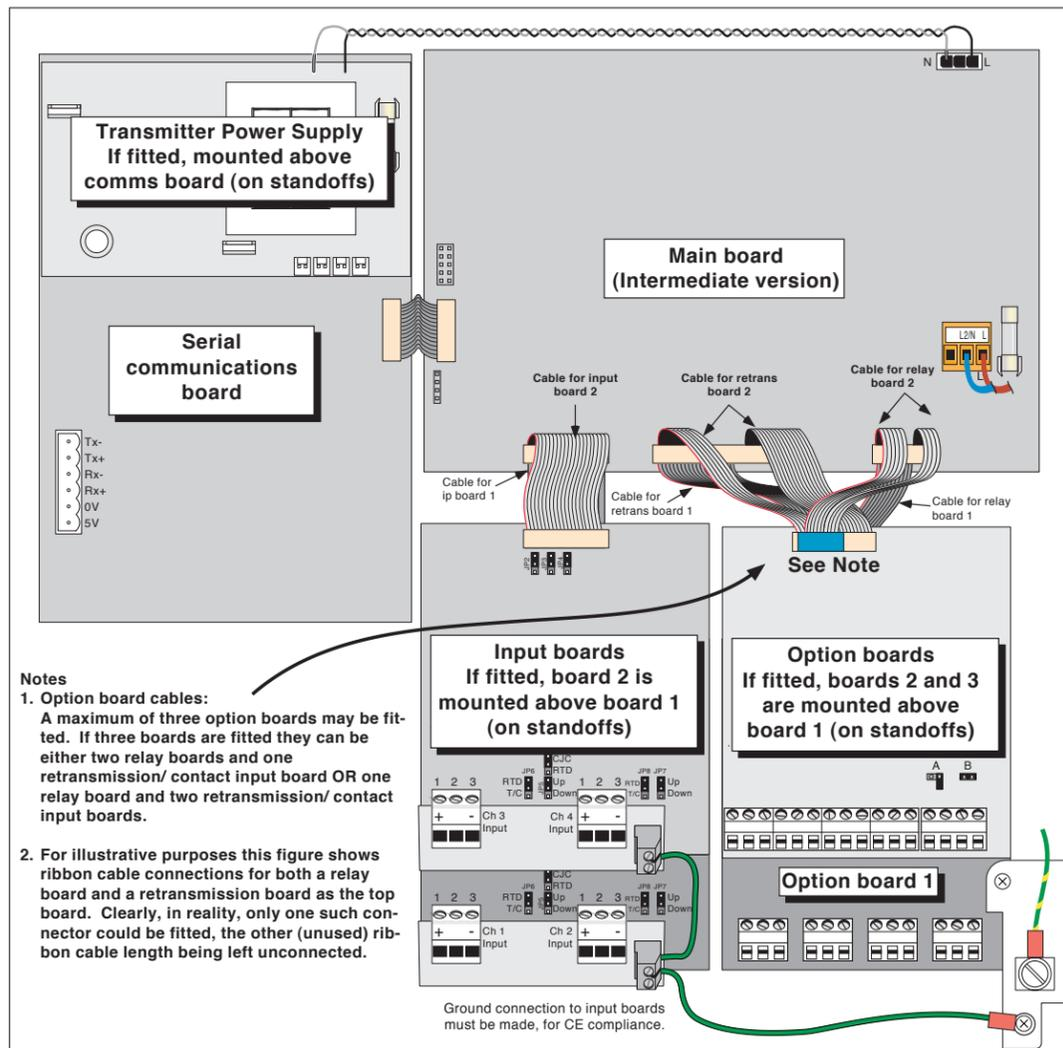
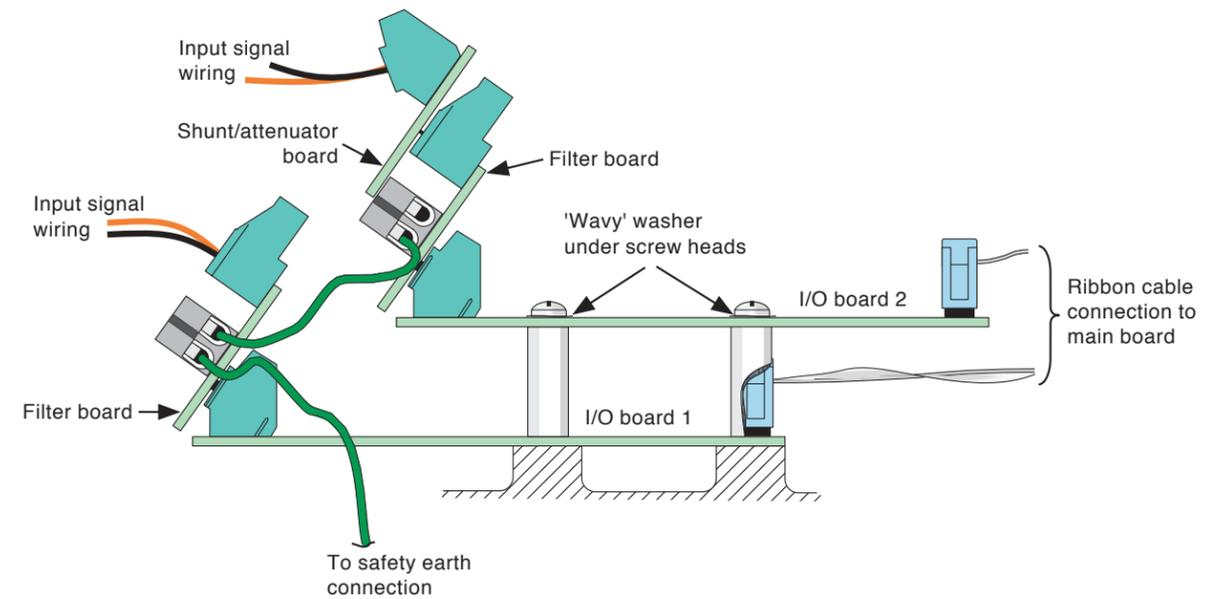

Figure 4.3a General arrangement of circuit boards - intermediate main board
Figure 4.3b Side view of input boards (original version, with filter board)
The general arrangement of boards is shown in figure 4.3a below, which also shows the ribbon cable arrangement for this version of the main board. The I/O board and option board arrangement is depicted in figures 4.3b and 4.3c. When fitted, the transmitter power supply is mounted above the serial communications board on standoffs similar to those shown in figures 4.3b and 4.3c.
3. The input board requires a 'filter board' to be fitted to its input terminals (figure 4.3b) for CE compliance.